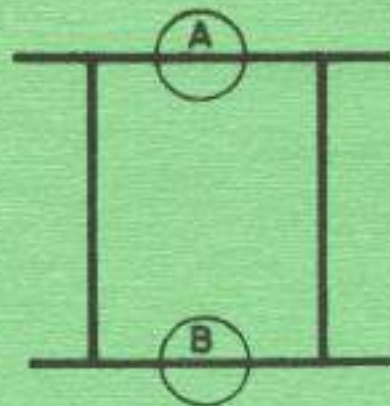

Fig.1
2. (a) Figure 1 shows a sliding door. Sketch and label sectional detail A and B. (6 marks)